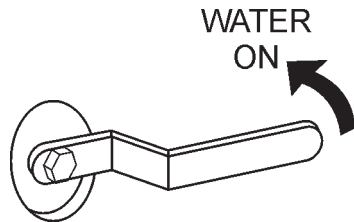

Figure 16. Water Sprinkler Valve (ON)
1. If the application requires the wetting of a surface, open the **water valve** located at the bottom of the roller floor (Figure 16) to spread the proper amount of water onto the roller drum at the desired rate that will wet both the front and rear rollers.